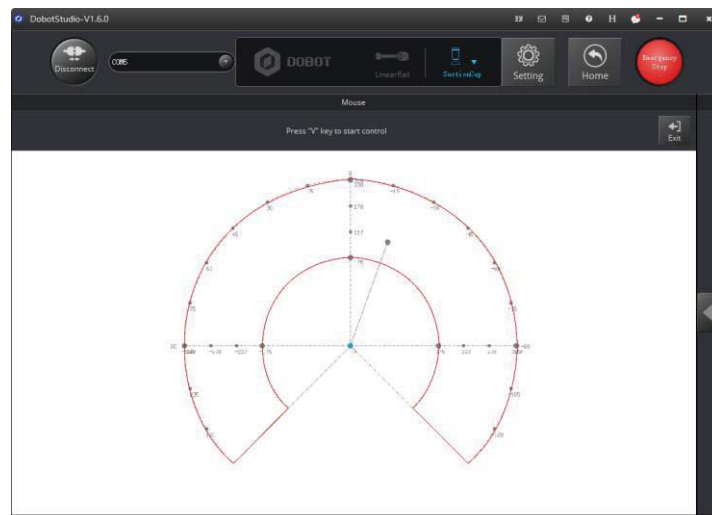

Figure 5.115 Move the robotic arm in the red annular area
- Step 2** Press **V** to enable the mouse control of the Dobot Magician. Press and hold the left mouse button to drag the mouse within the red annular area to move the robotic arm, as shown in Figure 5.115.